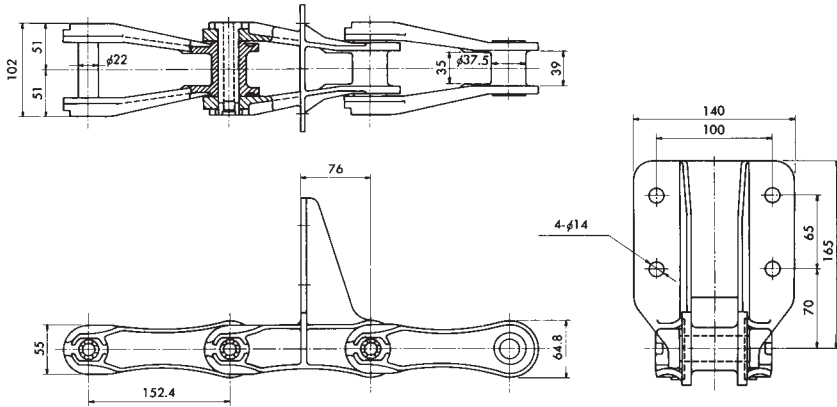

Figure 6.31 Engineered Plastic Chain (ACP Chain)
- (2) Engineered plastic chain (ACP Chain, Figure 6.31), developed in the United States, is a light-weight chain with high corrosion resistance. It does not have rollers (similar to cast iron chain). Due to its light weight (one-half to one-fourth the weight of stainless steel chain), installation is relatively simple.